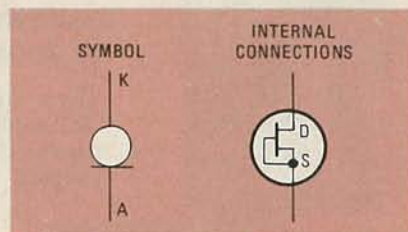
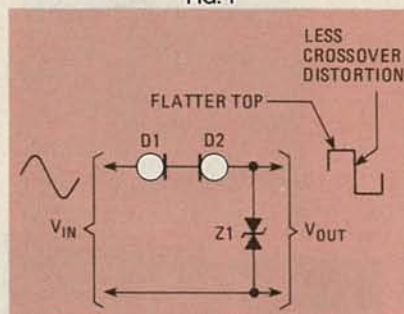
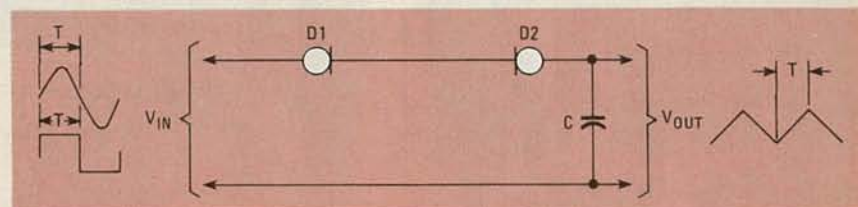

FIG. 1
FIG. 2
FIG. 3
The symbol and internal connections for the CIL-250 series are shown in Fig. 1. Figure 2 shows a clipper or square-wave generator made from two current-regulator diodes and a back-to-back Zener diode. Peak output-voltage is approximately $0.7 + V_Z$. Figure 3 shows how a high-quality triangle wave can be developed from either a sine wave or square wave. The square-wave input provides the cleaner waveform at zero crossover. Output amplitude is equal to the diode current multiplied by the time period (T) divided by capacitance (C).